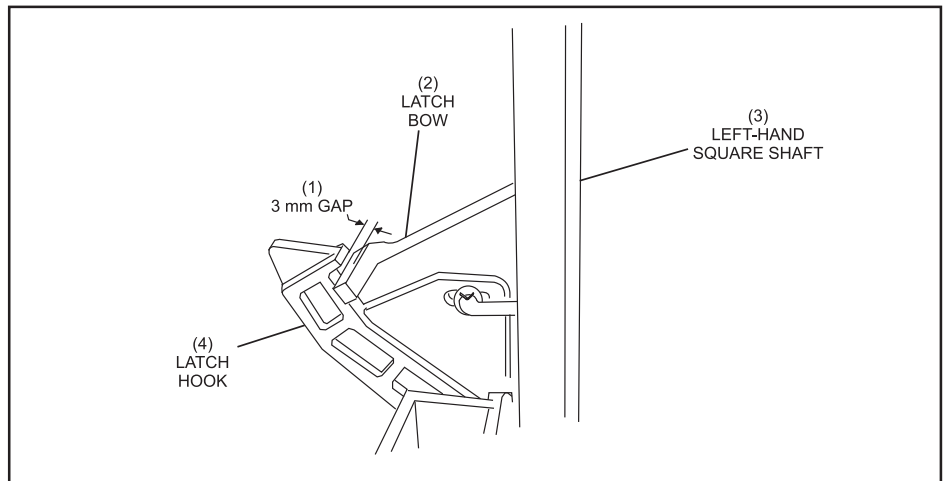

Figure 5-46. Rear Swing Shaft's Latch Bow and Latch Hook.
- b. Check for a gap of 3 mm between the rear swing shaft's latch bow and the latch hook. Adjust the horizontal stop bolt on the rear swing shaft to obtain the 3 mm gap. Refer to *Figure 5-46 & 5-47*.
- (1) 3 MM GAP
- (2) LATCH BOW
- (3) LEFT-HAND SQUARE SHAFT
- (4) LATCH HOOK